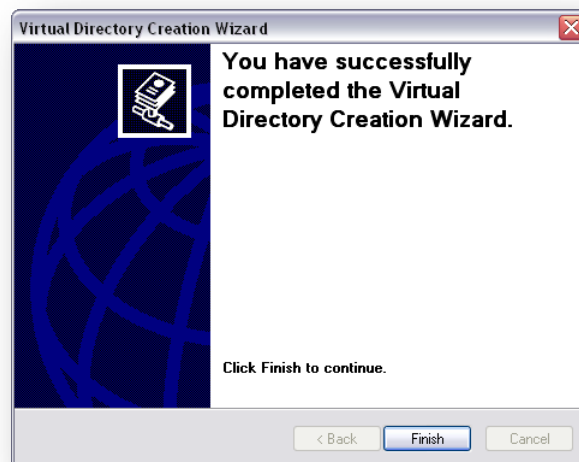

Figure 73 – Virtual Directory Creation Wizard (Completed)
4. Enter the password for the System Administrator (“sa”) account into the “Password” combo box. See Figure 73.